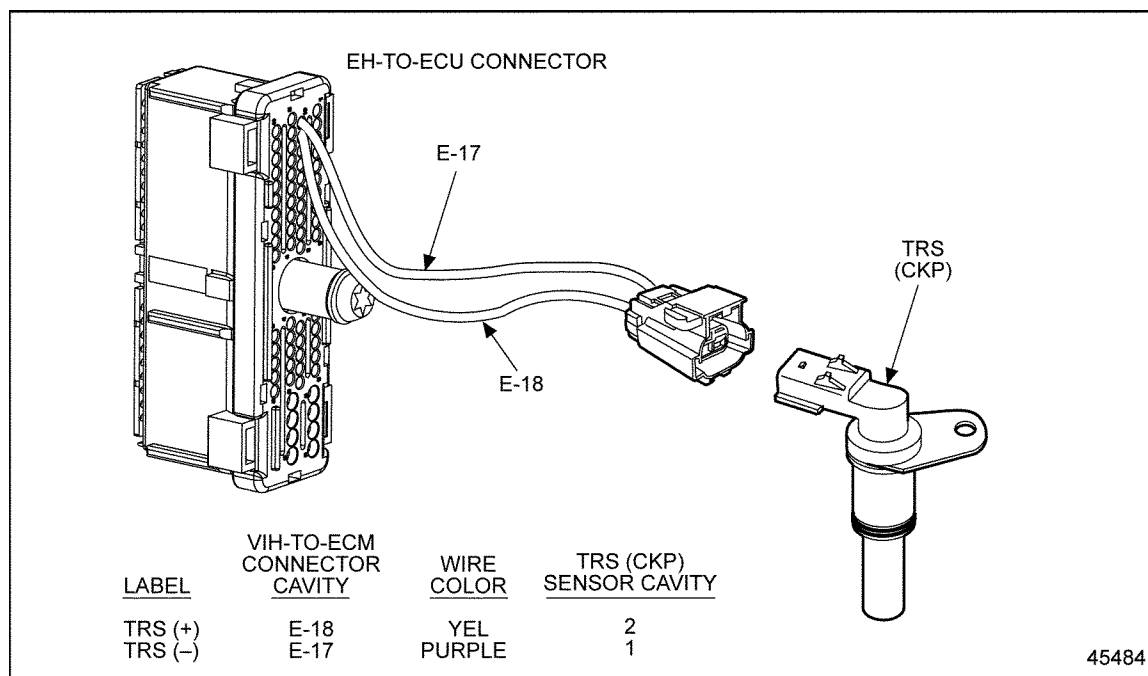

Figure 44-5 Engine Harness Connector to Crankshaft Position Sensor
2. Check terminals at the TRS/CKP (both the TRS/CKP and harness end) for damage: bent, corroded, and unseated pins or sockets or bad contacts. See Figure 44-5.